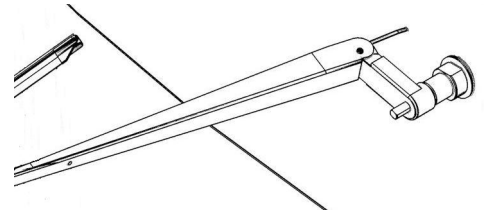

Figure 4
5. Service back the arms and pull on the arm/blade assembly while rocking the arm side to side to remove the arm. (Figure 4)